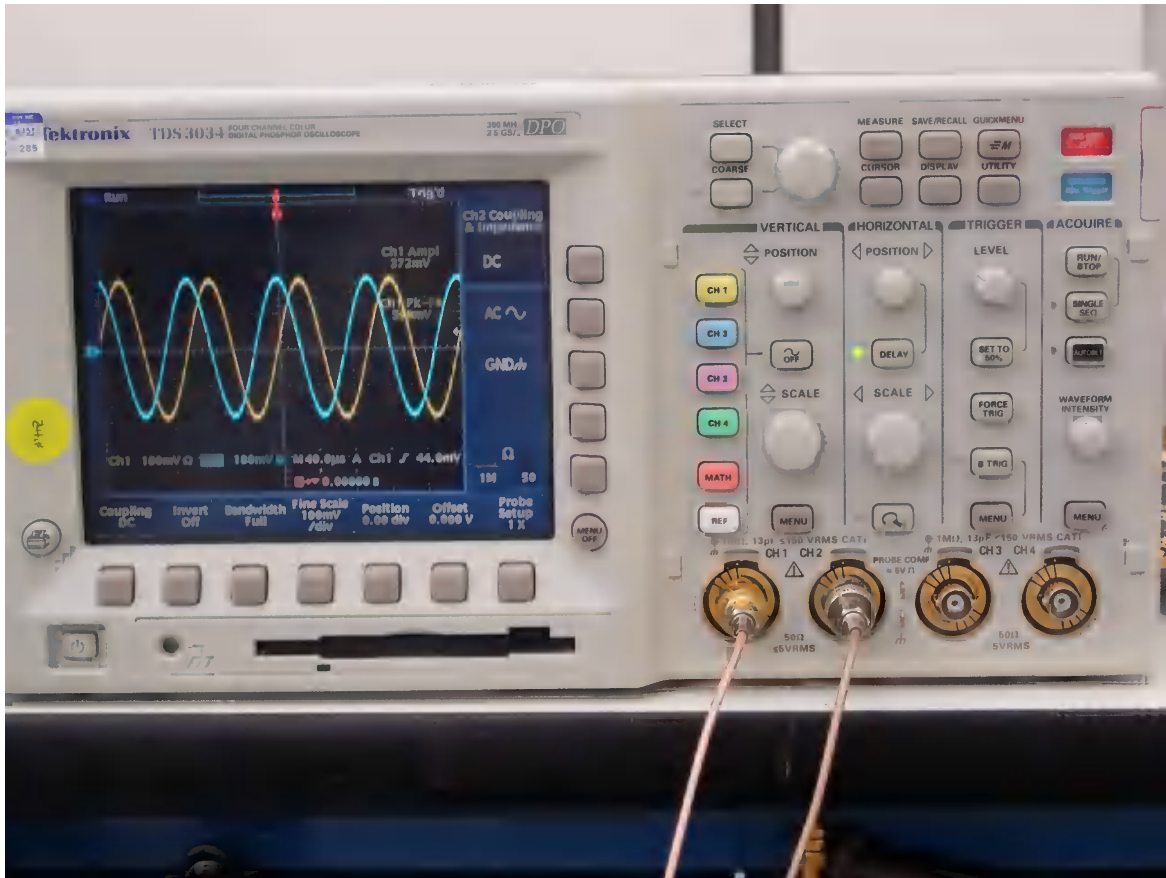

Figure 21. CW Outputs
- The CW outputs (J12, J13) display the frequency I and Q signals at 10 kHz as shown in Figure 21. The GUI *Gain Control Feedback Resistor* can be used to vary the amplitude of the outputs.